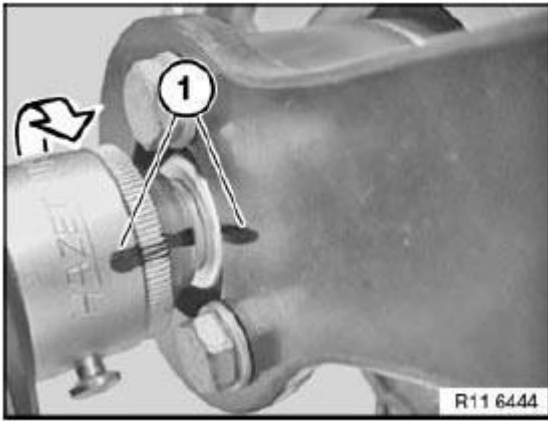

Fig. 250: Applying Stroke Of Paint For Torsion Angle
Apply stroke of paint (1) for torsion angle tightening to tool. See **Fig. 250** .